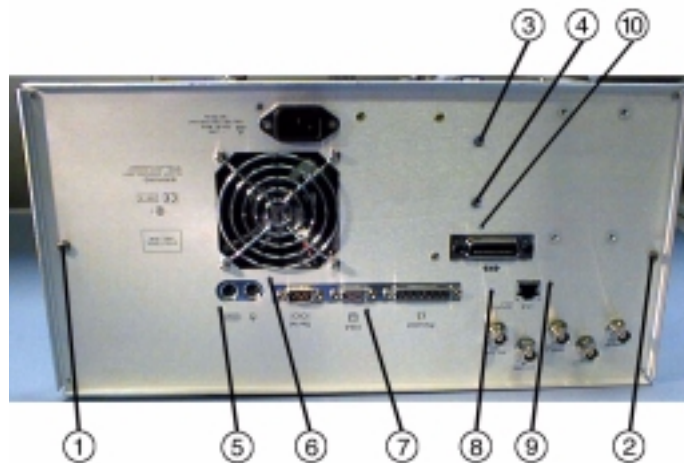

Figure 3-27. Removing the screws from the rear panel
- 5 Remove the 10 screws fastening the rear panel to the instrument. See Figure 3-27 below.
- a Use the T-15 TORX driver to remove the two screws fastening the rear panel to the instrument chassis. See ① and ② in Figure 3-27 below.
- b Use the T-10 TORX driver to remove 8 screws fastening the rear panel to the instrument chassis. See ③ through ⑩ in Figure 3-27 below. The 86146B has an additional GPIB port on the rear panel labelled auxiliary.
- 10 Use long-nosed pliers to disconnect the Trans-Z cable from the Trans-Z Analog Out connector on the Trans-Z board. See ① in Figure 3-27 below.
- 3 Use the T-15 to remove 6 screws fastening the rear panel assembly to the chassis. See ① through ⑥ in Figure 3-27 below.
- 4 Use the T-10 to remove 2 screws fastening the rear panel assembly to the optical assembly. See ⑦ and ⑧ in Figure 3-27 below.
- 5 Use the T-10 to remove 6 screws fastening the CPU board to the rear panel assembly. See ⑨ through ⑭ in Figure 3-27 below.